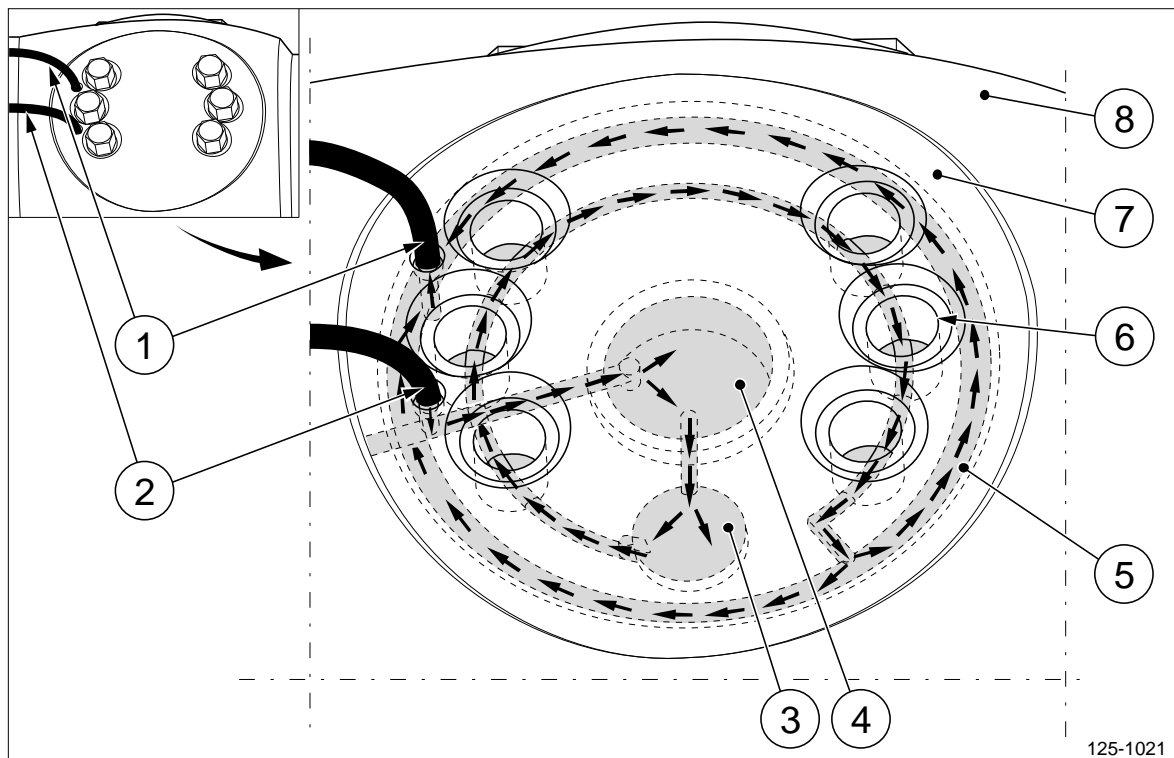

Figure 8 Flushing direction through the blade flange, G-design.
20. Connect the oil injection pump flushing nipple and hose (pos 2, figure 8) to connection marked “IN”.
21. Connect the excessive oil container flushing nipple and hose (pos 1, figure 8) to oil connection marked “OUT”.